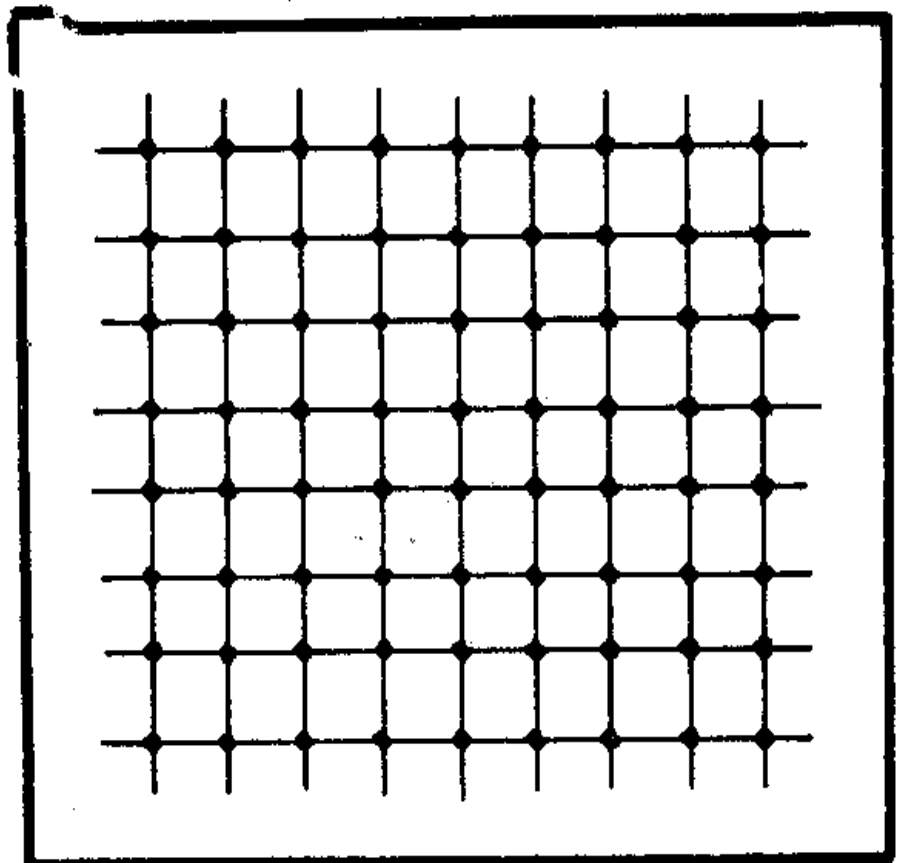

Fig. 5 - Screening the Soil.
30. Screening The soil should be screened through 1/4" or 3/8" (6mm or 10mm) wire mesh (see Fig. 5).
The screen should be mounted at a level where it can be shaken by hand without back-bending; for example, by suspending it from two trees or posts (see Fig. 5). The screening operation is one where women and children can help in block-making.